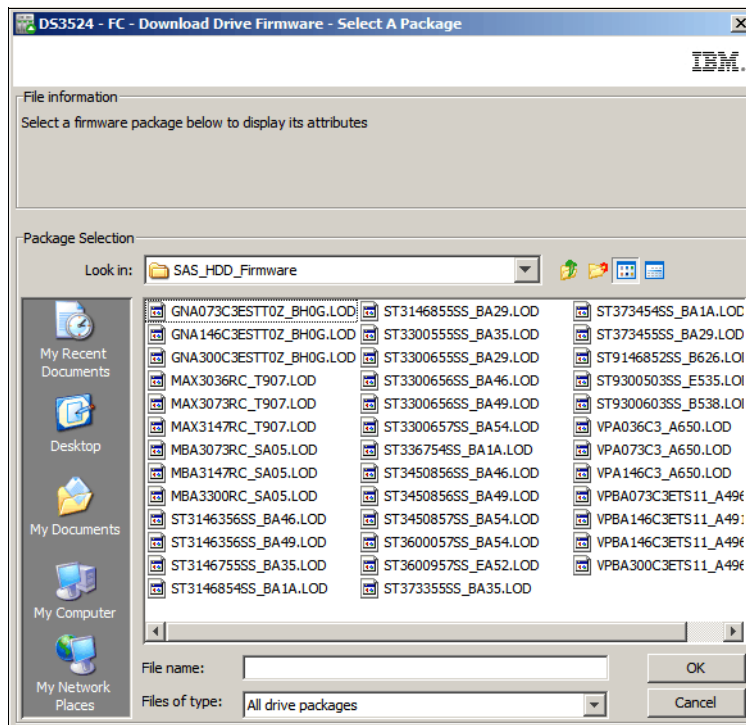
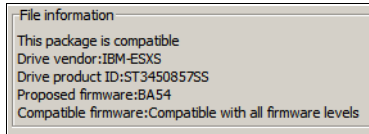
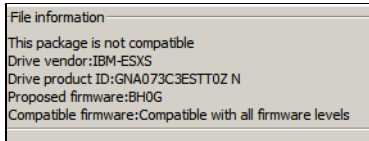

Figure 14-82 Download Drive Firmware - Select A Package
Figure 14-83 Drive firmware is compatible
Figure 14-84 Drive firmware is not compatible
3. Click **Add** to open the **Select A Package** window (Figure 14-82) and browse to the folder that contains the drive package files.
As you highlight each package listed in the window shown in Figure 14-82 on page 382, the **File Information** section will report if the selected drive firmware package is **Compatible** (Figure 14-83) or **Not Compatible** (Figure 14-84) with the types of drives that are installed in your system.